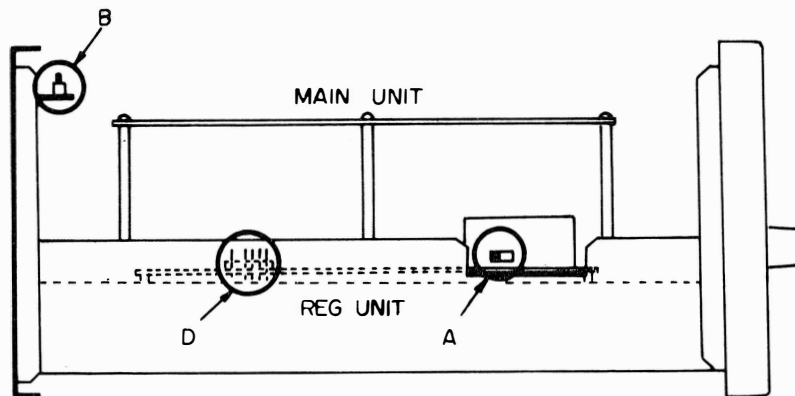
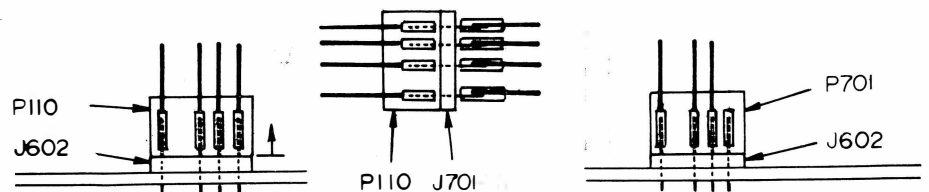

Fig. 14
Fig. 17
Locate the switch marked A in Figure 14. At this switch, there are two marks: H and L. For channel 3, set this switch to L, and for channel 4, set the switch to H. No further adjustment is required.
- (3) Locate 4-pin P110/J602, marked E in Figures 14 and 17. Also locate J701 and P701 (from the LOCAL LOOP UNIT). Remove P110 from J602, and connect P110 to J701, as shown in Figure 17. Now connect P701 to J602, as shown in Figure 17.